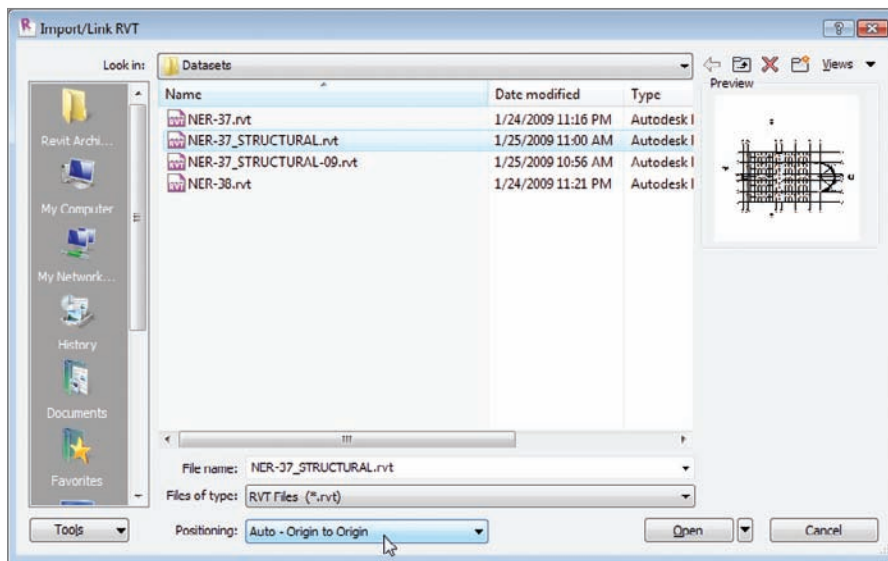

FIGURE 20.2 Pay attention to the choices provided before you click Open.
6. At the bottom of the dialog, you will get a choice of positioning. Select Auto - Origin To Origin, as shown in Figure 20.2.